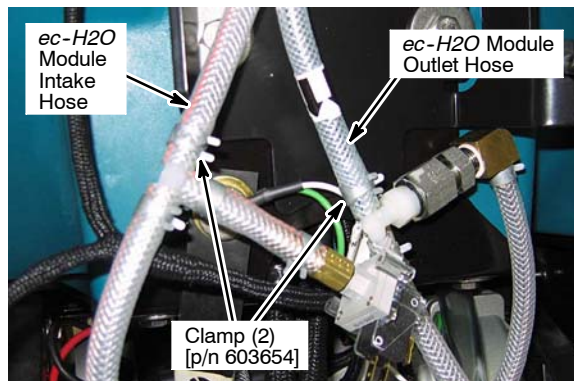

Fig. 41
10. Using two hose clamps [p/n 603654], connect the *ec-H2O* module hoses to the *ec-H2O* solution hose assembly (from step 9) as shown (Figure 41).